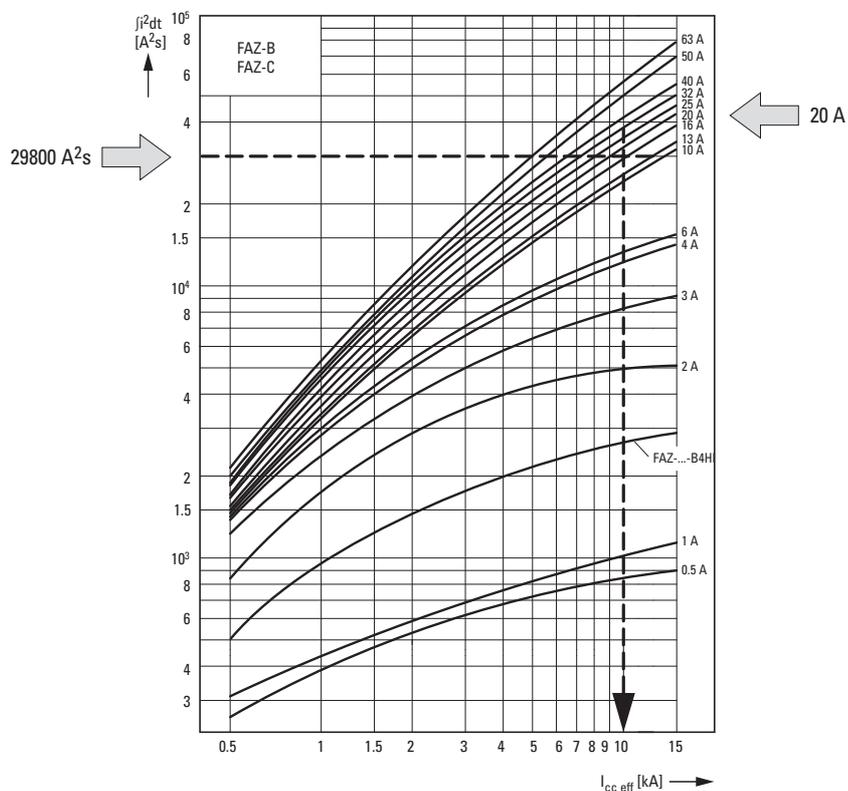

Figure 12: Cable protection with FAZ-3-B20
- Therefore the short-circuit current  $I_{cc \text{ r.m.s.}}$  at the mounting location must not exceed  $10 \text{ kA}$  (a characteristic curve Figure 12).